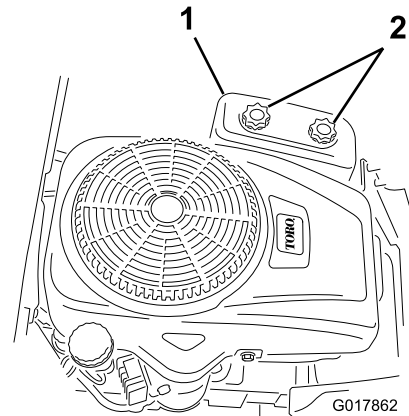

Figure 28
4. Remove the air-cleaner cover by unscrewing the 2 knobs (Figure 28).